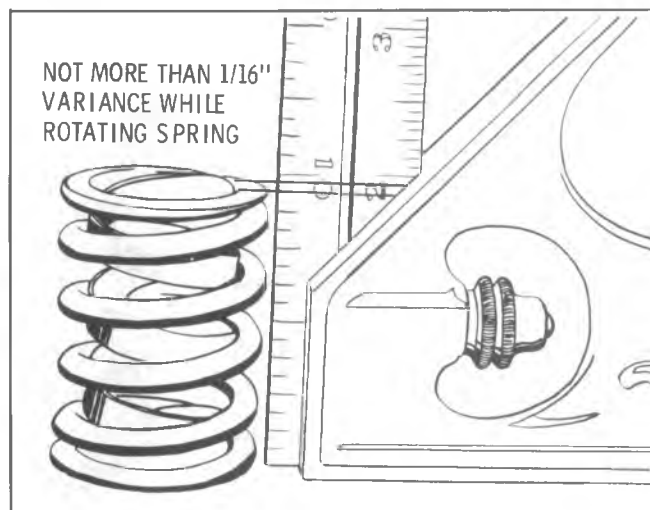

Fig. 6A6-41--Checking Valve Spring
16. Raise arm, then start test by resting ram on steel ball. Rotate reservoir one revolution every two seconds and time the indicator from the start to the stop line. (Fig. 6A6-40). Allowable leak-down rate is 6 seconds minimum for used lifters and 9 to 60 seconds for new lifter.